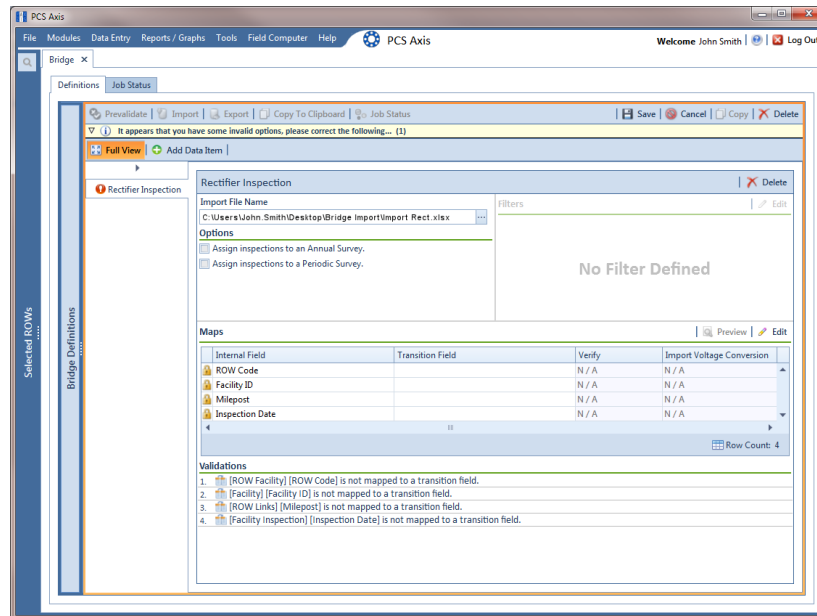

Figure 10-8. Definition
- 11** To assign inspections to a survey folder based on the inspection date, complete one or both of the following steps in the *Options* group box as required (Figure 10-8):